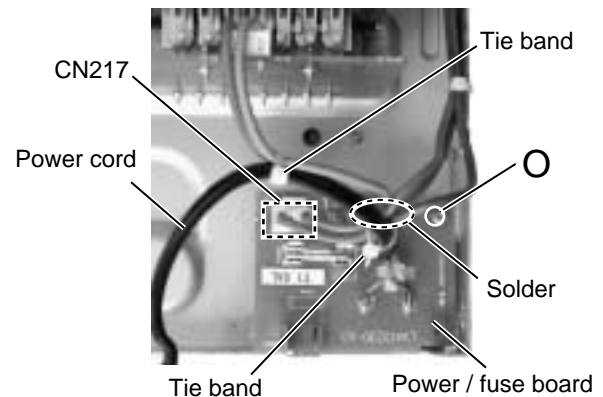

Fig.13
■ Removing the power / fuse board (See Fig.13)